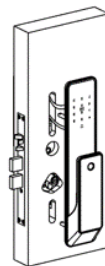

Fig. 10
- Connect the connection line between mortise lock body and outer handle. Ref Fig. 10.
- Connect the connection line between both the inner and outer handles. Ref Fig. 10.